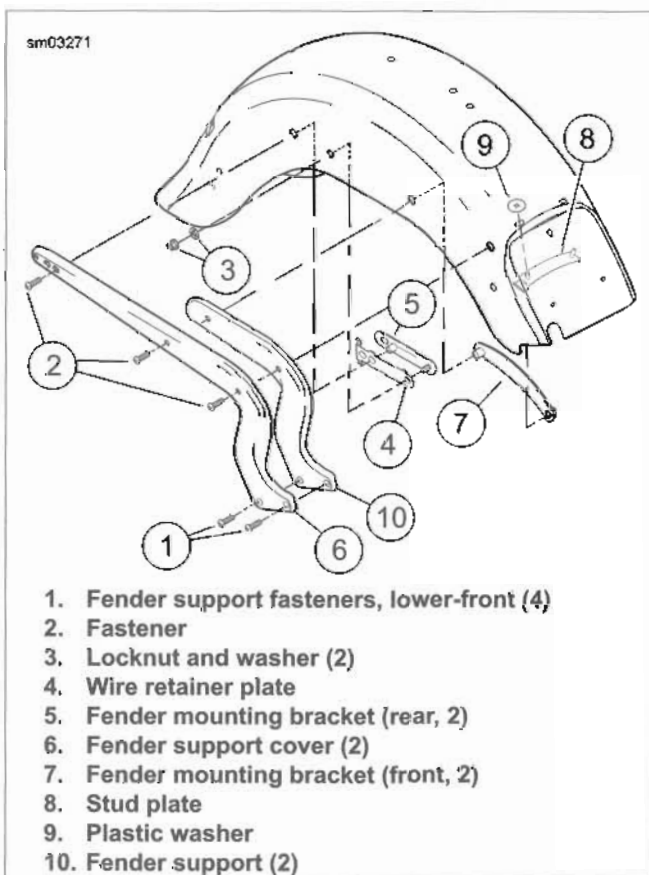

Figure 2-111. Rear Fender: FLSTF/B
6. See Figure 2-111. Remove fasteners (2) from front fender mounting brackets (7), rear fender mounting brackets (5) and wire retainer plates (4).
2. See Figure 2-111. Carefully place the fender into position. Install fender supports using hardware shown.
- a. Tighten fasteners (2) to 21-27 ft-lbs (28.5-36.6 Nm).
- b. Tighten fasteners (1) to an initial torque of 30-35 ft-lbs (40.7-47.5 Nm).
- c. Loosen fasteners (1) and final-tighten to 38-42 ft-lbs (51.5-56.9 Nm).